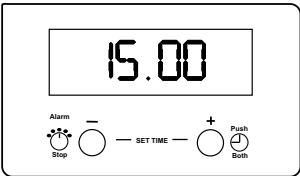

Fig.10
Release button (1). After a few seconds the time of day will show in the display, see Fig. 10.